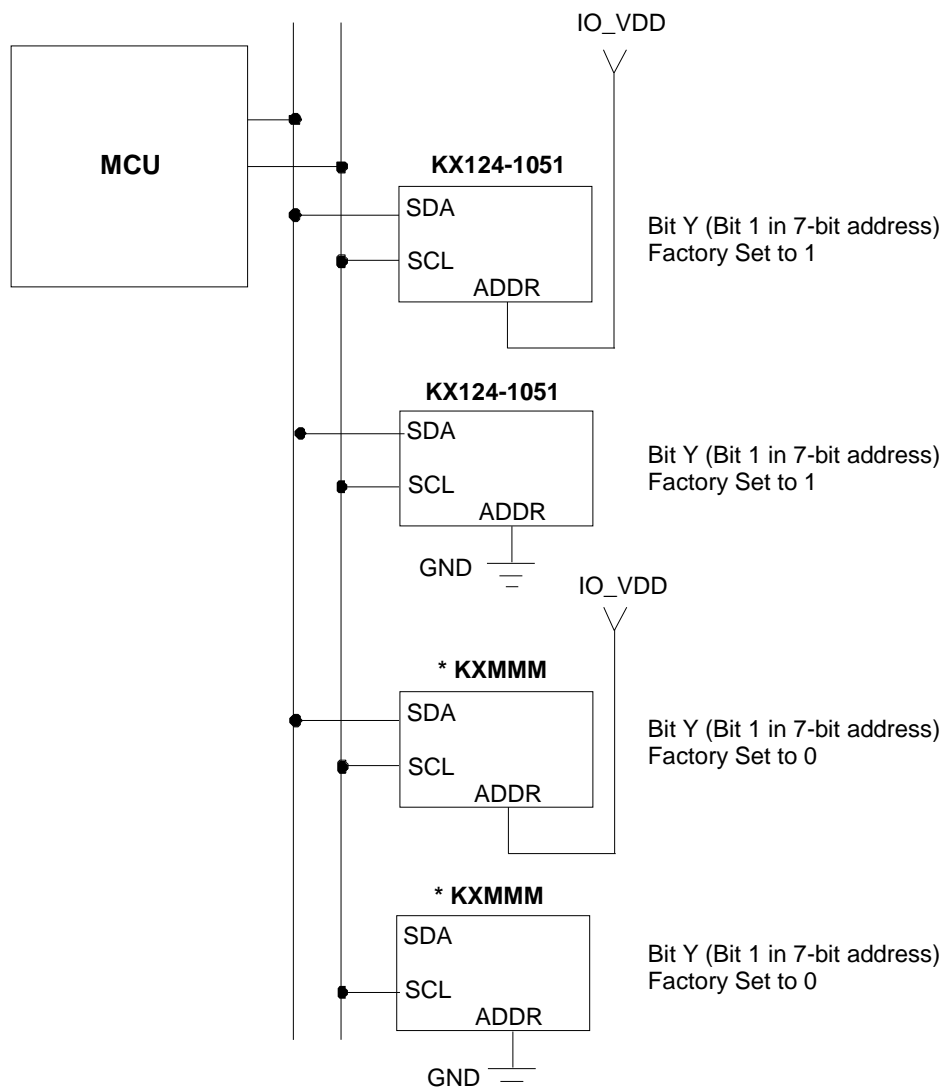

Figure 1: Multiple KX124 Accelerometers on a Shared I²C Bus
Transactions on the I²C bus begin after the Master transmits a start condition (S), which is defined as a high-to-low transition on the data line while the SCL line is held high. The bus is considered busy after this condition. The next byte of data transmitted after the start condition contains the Slave Address (SAD) in the seven MSBs (Most Significant Bits), and the LSB (Least Significant Bit) tells whether the Master will be receiving data '1' from the Slave or transmitting data '0' to the Slave. When a Slave Address is sent, each device on the bus compares the seven MSBs with its internally stored address. If they match, the device considers itself addressed by the Master. The KX124 Slave Address is comprised of a user programmable part, a factory programmable part, and a fixed part, which allows for connection of multiple accelerometers to the same I²C bus. The Slave Address associated with the KX124 is 00111YX, where the user programmable bit X, is determined by the assignment of ADDR (pin 1) to GND or IO_VDD. Also, the factory programmable bit Y is set at the factory. **For KX124-1051, the factory programmable bit Y is fixed to 1** (contact your Kionix sales representative for list of available devices). Table 7 lists possible I²C addresses for KX124-1051. As a result, up to four accelerometers can be implemented on a shared I²C bus as shown in Figure 1 on the next page (e.g. two KX124-1051 accelerometers and two other accelerometers with factory programmable bit Y set to 0).